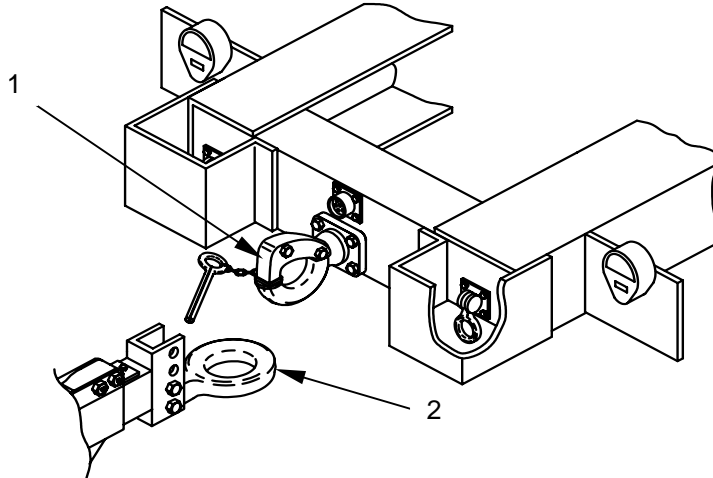

Figure 3. Connecting WWET/T to Prime Mover
2. Position the prime mover so that its towing pintle (**figure 3, item 1**) is located close to the lunette eye (**figure 3, item 2**) of the trailer.